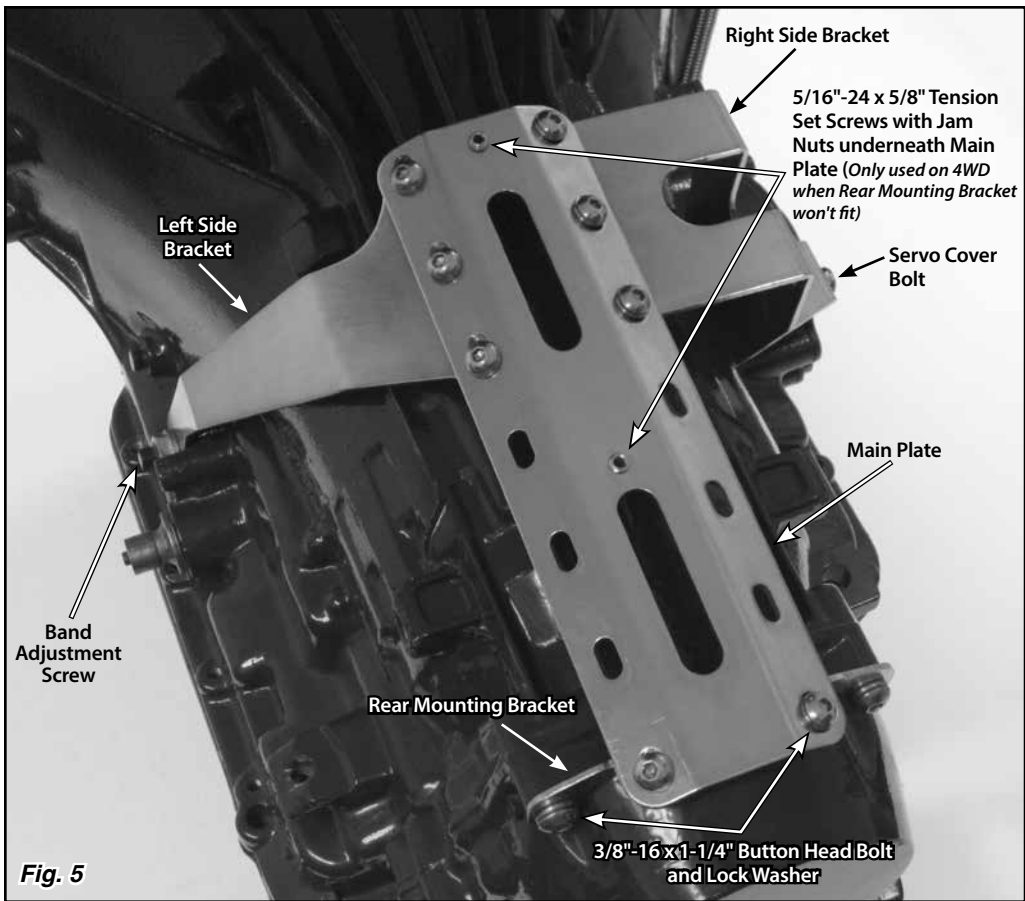

Fig. 5
Step 6: Place a small amount of silicone sealer around the band adjustment screw. Install the mounting bracket assembly onto the transmission by first placing the left side bracket over the band adjusting screw. Then, position the right side bracket over the servo cover bolt hole, and loosely install the servo cover bolt you removed earlier. Install the original lock nut back onto the band adjustment screw, but do not tighten yet. **Again, be sure you do not change the adjustment!** Fig. 5